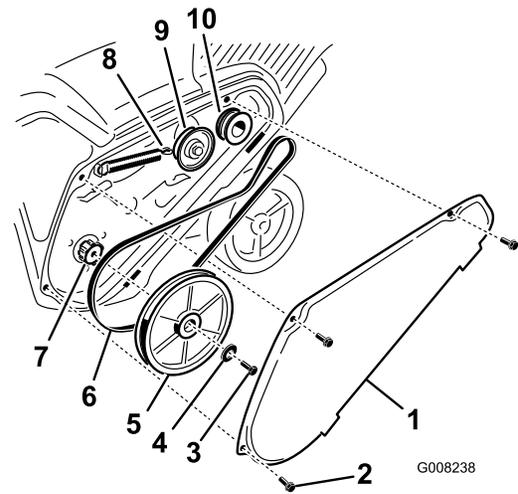

Figure 36
- Remove the drive belt cover by removing the 3 bolts as shown in Figure 36.
- Bolt (3)
- Unhook the brake spring from the idler arm to release the belt tension (Figure 36).
- Remove the screw and curved washer that holds the rotor pulley (Figure 36).
- Remove the rotor pulley and the drive belt (Figure 36).
Note: Route the new drive belt first around the engine pulley, then the idler pulley, and finally around the loose rotor pulley positioned just above the rotor shaft (Figure 36).
- Install the rotor pulley onto the rotor shaft (Figure 36).
- Install the curved washer and the rotor-pulley bolt and tighten them securely (Figure 36).